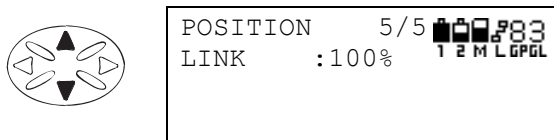

Figure 3-68. Link Status
- the radio modem's link status (Figure 3-68). LINK indicates the quality of the data link. If the link has no errors, 100% displays.